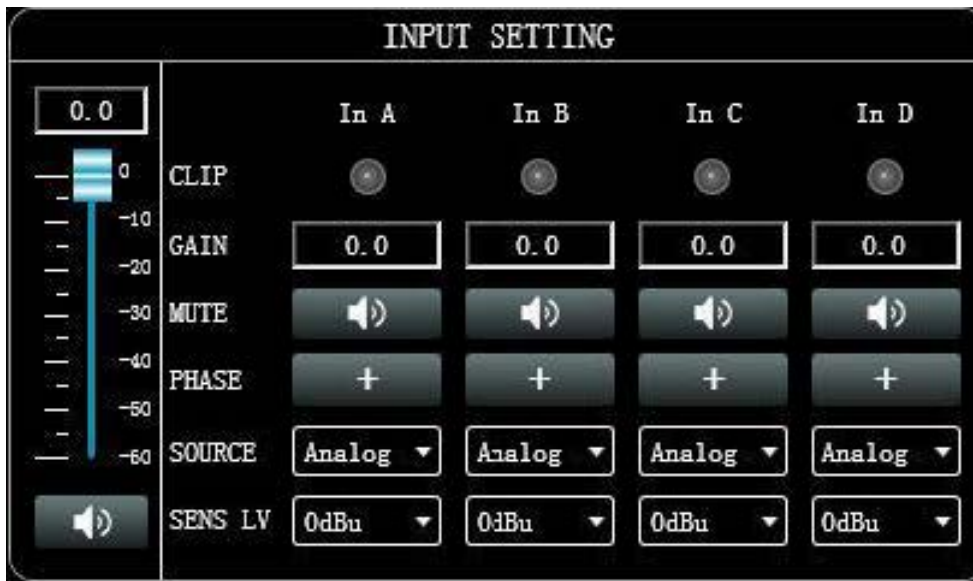

Figure 6.1.3
1. As shown in Figure 6.1.3, is  the total volume push button, you can use the mouse to drag, or you can directly enter the exact value in the input box . is the mute   button.